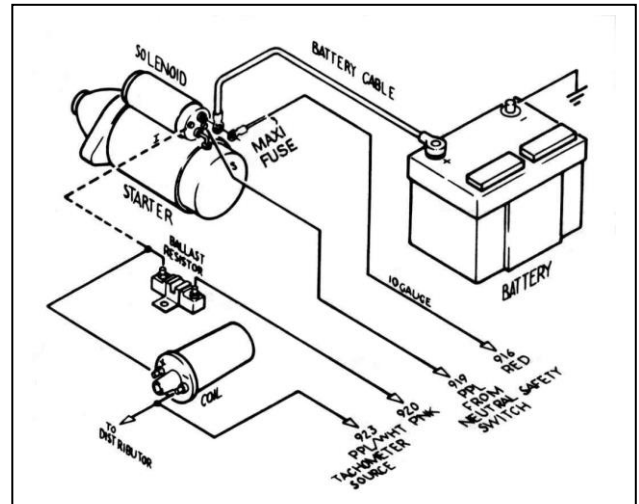

Figure 7-4 GM Ignition (Start-Run) System
7.3 GM Ignition (Start/Run) System. See Figure 7-4.
7.3.6 A 14-gauge wire connected from the Starter Solenoid Ignition (I) terminal to the ignition coil side of the Ballast Resistor is optional. This wire (the dashed line in **Figure 7-4**) serves as a ballast resistor BYPASS during engine starting. However, if the starter solenoid shorts out, which is not unusual, the engine will stop during engine starting and will not restart as long as this wire is connected. You may therefore choose to omit it. If you are not using a Ballast Resistor, leave the Starter Solenoid Ignition (I) terminal unconnected and do not install the bypass wire.